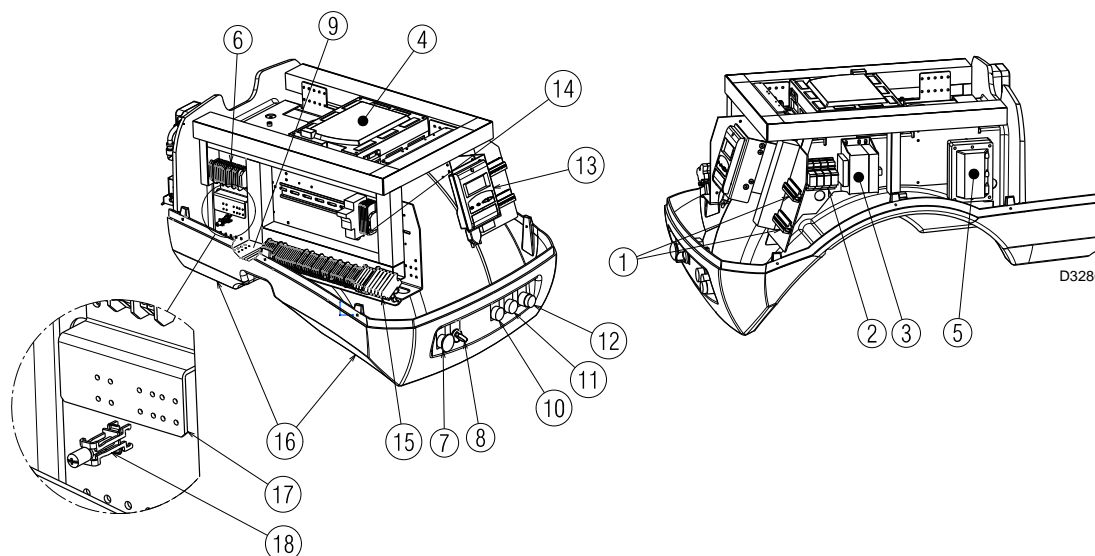

Fig. 5
- **Flame control lockout:** if the pilot light 12)(Fig. 5) on the panel lights up, it indicates that the burner is in lockout. release by pressing the pushbutton 12)(Fig. 5).